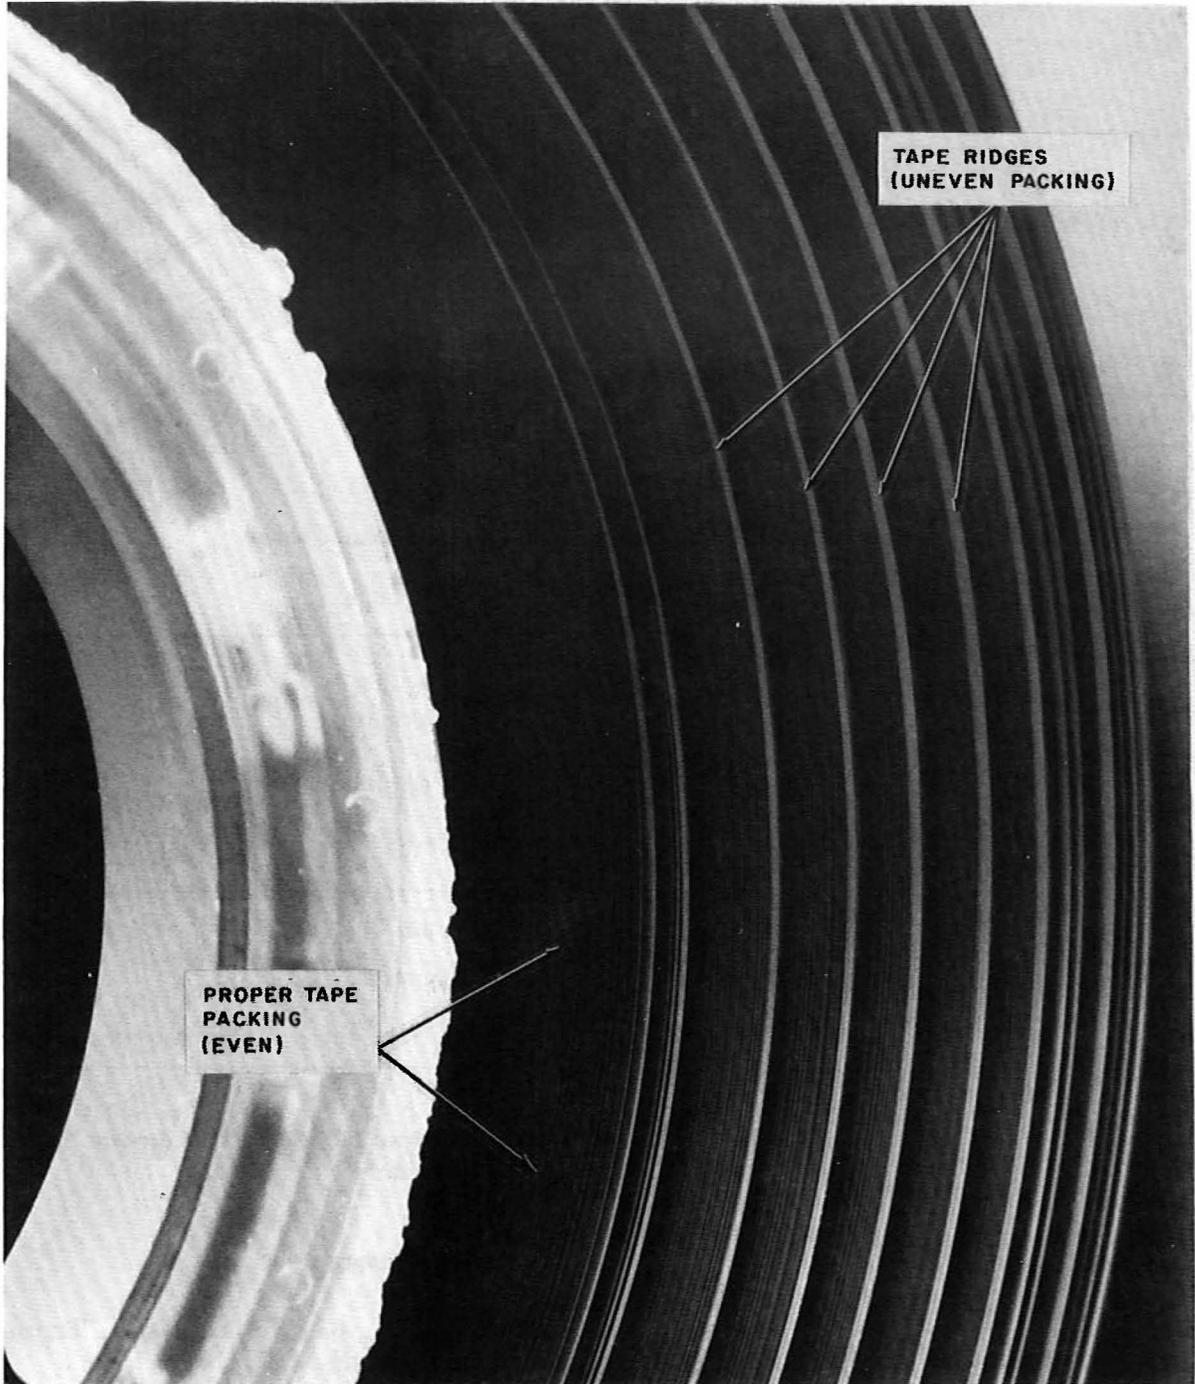

Fig. 3—Uneven Tape Packing on a Reel of Magnetic Tape
(o) The inside surfaces of the take-up reel flanges should be checked visually for burrs or other surface defects which may interfere with smooth winding of tape (Fig. 3).
2.02 Rewind of Tape: A reel of magnetic tape should be rewound before use when the tape packing shows severe unevenness as shown in Fig. 3. This condition is generally caused by extreme temperature excursions, subsequent handling (see 8.04), machine tape path misalignments, or air turbulence especially associated with high-speed machines. Similar but not as severe unevenness in tape pack is a common result of tape operation on many machines. Generally this condition does not affect tape performance. It is a matter of judgment by the user to evaluate the severity of the tape pack misalignment and estimate the conditions causing that misalignment (such as known extreme temperature exposure or mechanical shock) as to whether the tape should be used directly, rewound first, or retired. Tape rewind can be accomplished by performing a complete forward and reverse tape wind at a continuous speed (8.01). See electronic data processing (EDP) center for rewind procedures.